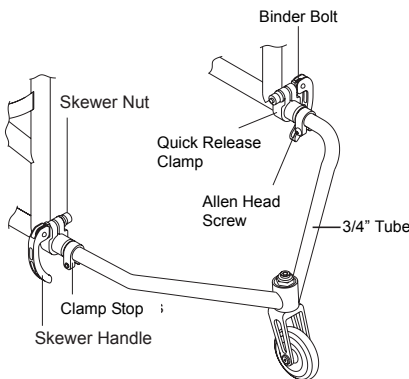

Figure 131
1. Lift up on the skewer handles of the quick-release clamps and turn counter-clockwise while holding the skewer nuts in place to permit the 5th wheel to slide in or out of the frame. See Figure 131.